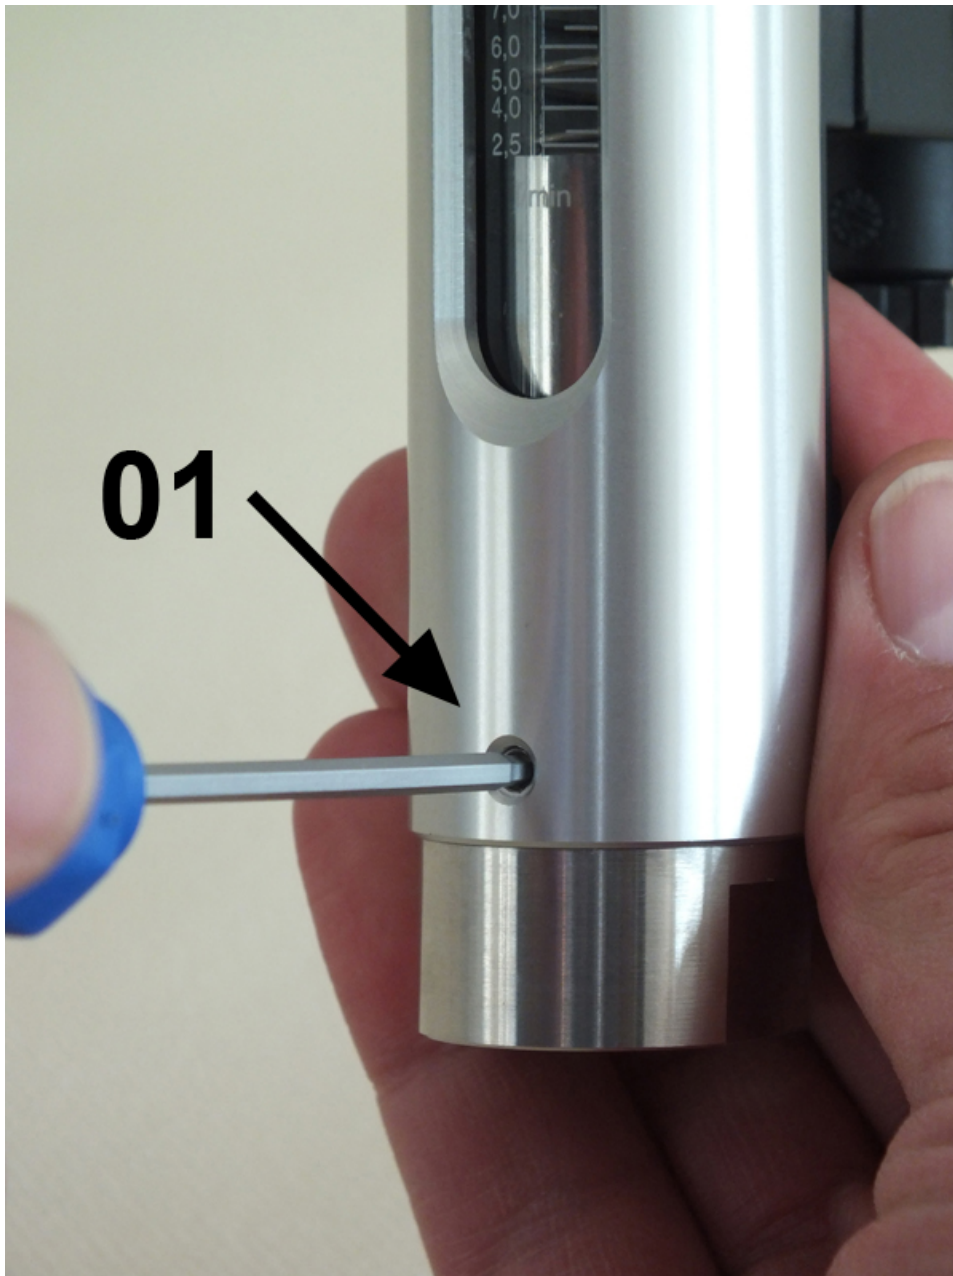

Fig. 47: Secure the process connection (inlet)
- 9.** ➤ Secure the inlet process connection to the device housing with 3 hex socket screws (*Fig. 47/01*), observing the proper torque.